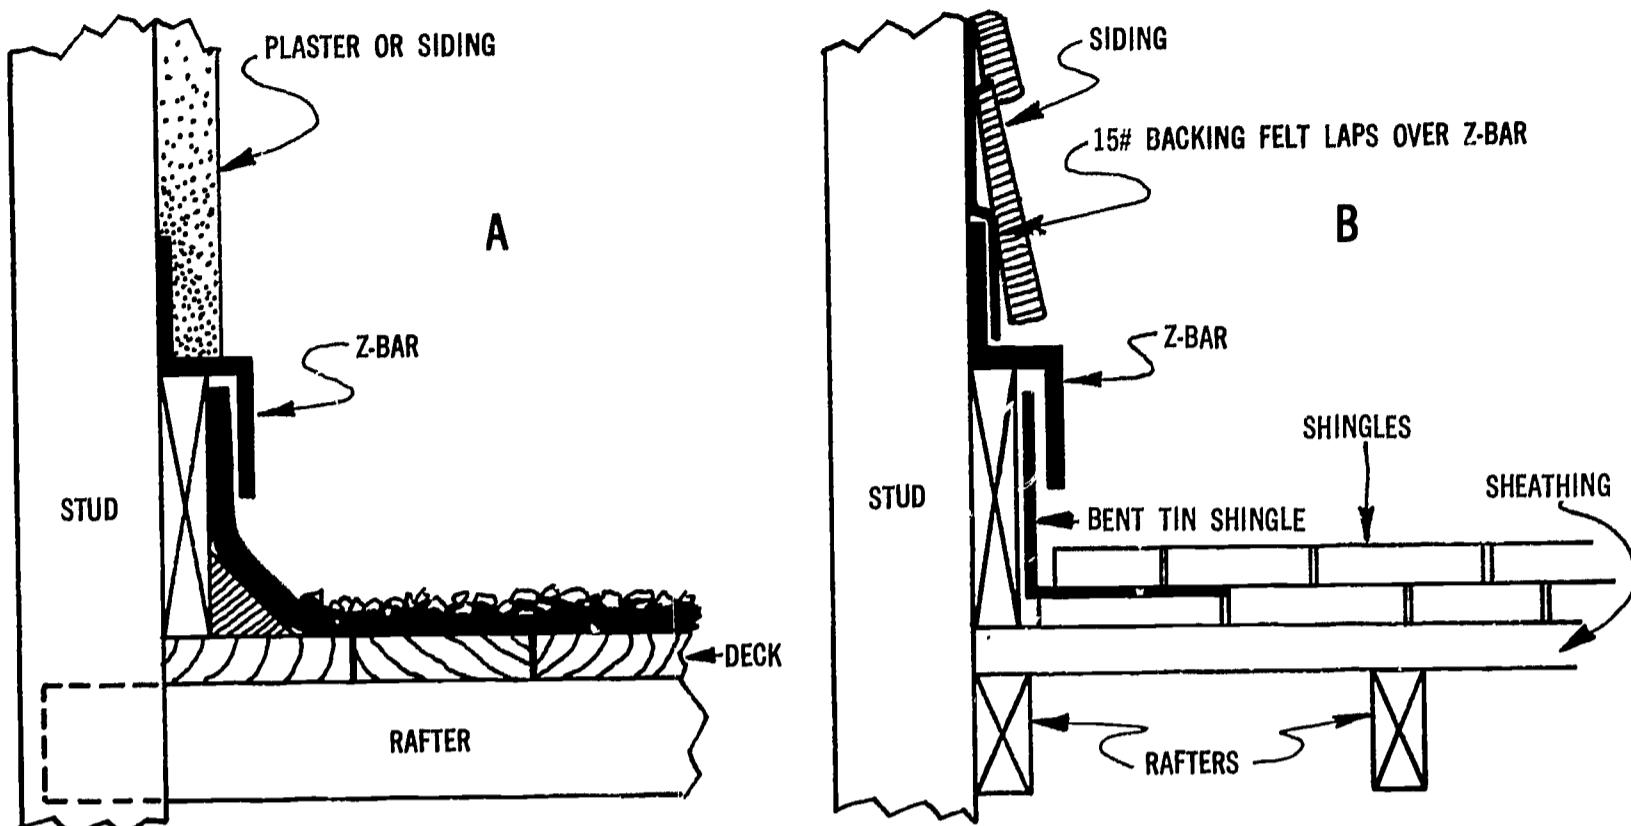

Fig. A-20. Proper flashing procedures using Z-bar
An important factor to consider when flashing any roof is the ease with which reroofing can be done; this is especially true of a shingle roof. A superior method to follow for a quality job is shown in Fig. A-20 (B).
When composition shingles are specified to recover old wooden shingles, proper flashing can be accomplished by applying a 90-degree turnup under the Z-bar as shown in Fig. A-20.